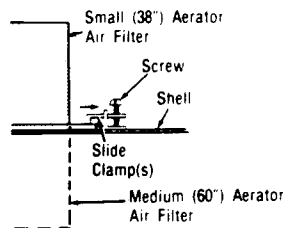

Figure 3-2. CLAMP ASSEMBLY.
1. Loosen the screws on the slide clamps which hold filter to shell (Fig. 3-2).